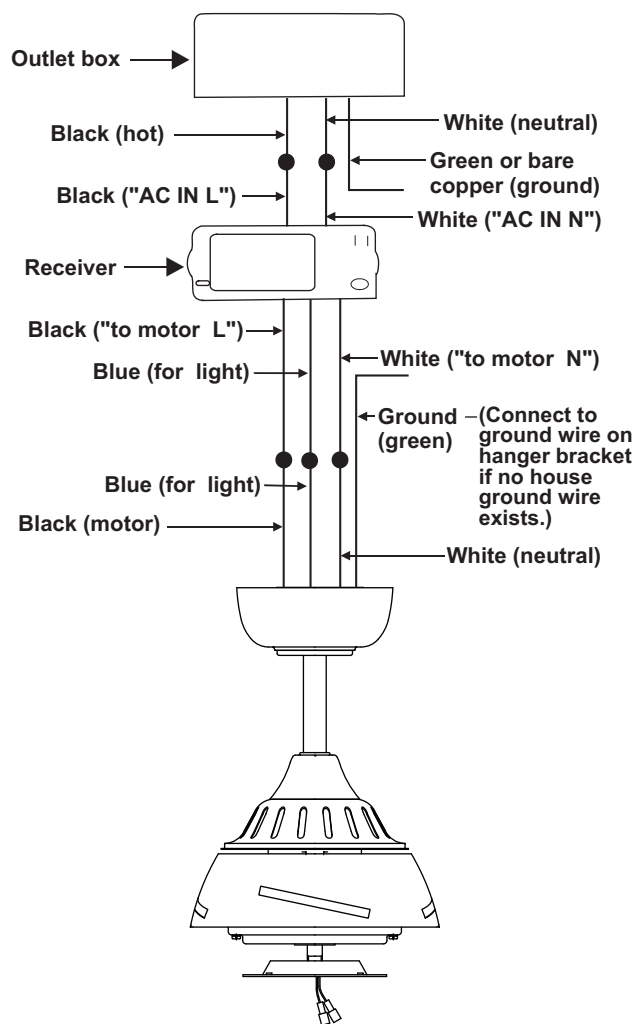

Figure 12
**Step 2.** (Figure 12) Motor to Receiver Electrical Connections: Connect the black wire from the fan to black wire marked "TO MOTOR L". Connect the white wire from the fan to the white wire marked "TO MOTOR N" from the receiver. Connect the blue wire from the fan to the blue wire marked "For Light" from the receiver. Secure the wire connections with the plastic wire nuts provided.
**Step 3.** (Figure 12) Receiver to House Supply Wires Electrical Connections: Connect the black (hot) wire from the ceiling to the black wire marked "AC in L" from the receiver. Connect the white (neutral) wire from the ceiling to the white wire marked "AC in N" from the Receiver. Secure the wire connections with the plastic wire nuts provided.
**Step 4.** (Figure 12) If your outlet box has a ground wire (green or bare copper) connect it to the fan ground wires; otherwise connect the hanging bracket ground wire to the mounting bracket. Secure the wire connection with a plastic nut provided. After connecting the wires, spread them apart so that the green and white wires are on one side of the outlet box and black and blue wires are on the other side. Carefully tuck the wire connections up into the outlet box.